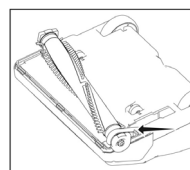

Fig. 5
4. Remove the brushroll and the worn or broken belt from the brushroll pulley and the motor drive shaft (Fig. 5).
5. Loop the new belt around the motor drive shaft and the brushroll (Fig. 5).